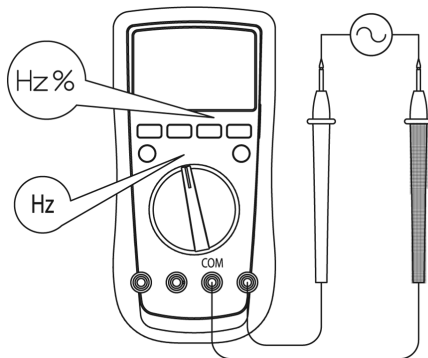

figure 8
G. Frequency Measurement (see figure 8)